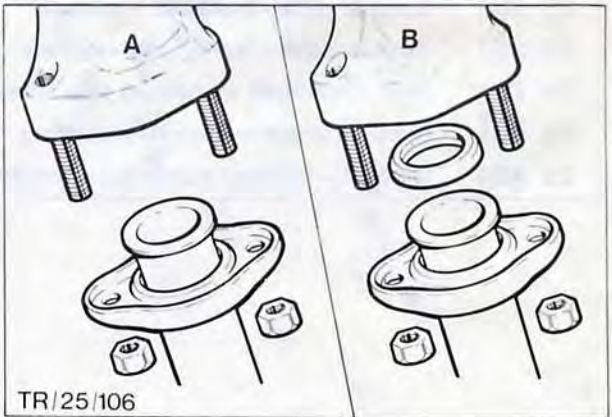

Fig. 8. Exhaust manifold front down pipe clamp
5. Disconnect exhaust front down pipe from exhaust manifold by removing two nuts and allow down pipe free movement, Fig. 8. Remove sealing ring (where fitted) and retain.